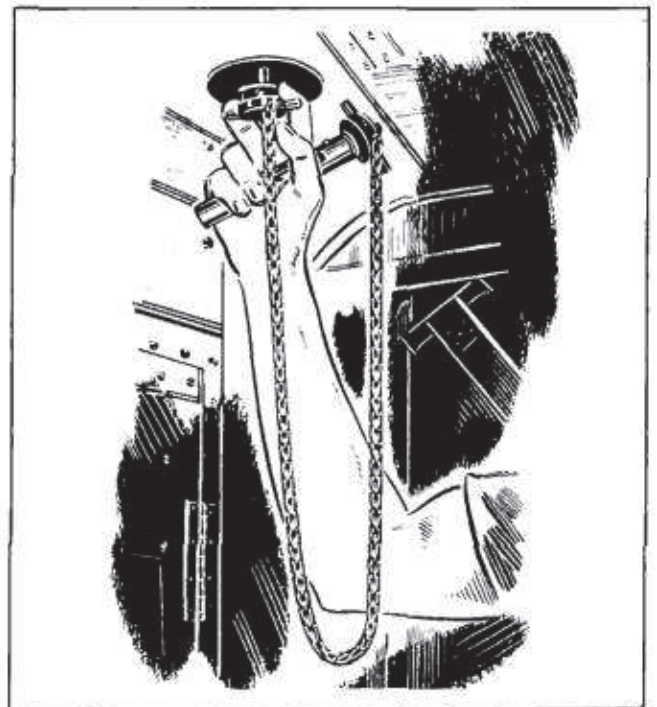

Figure 64—Locking Rudder
b. **LOCKING RUDDER.**—Take the rudder and elevator keys to the tail compartment. Open the rudder quadrant inspection door and line up the hole in the quadrant with the hole in the stabilizer rear spar lug. Push the rudder key through both holes until the snap spring engages. (See figure 64.)